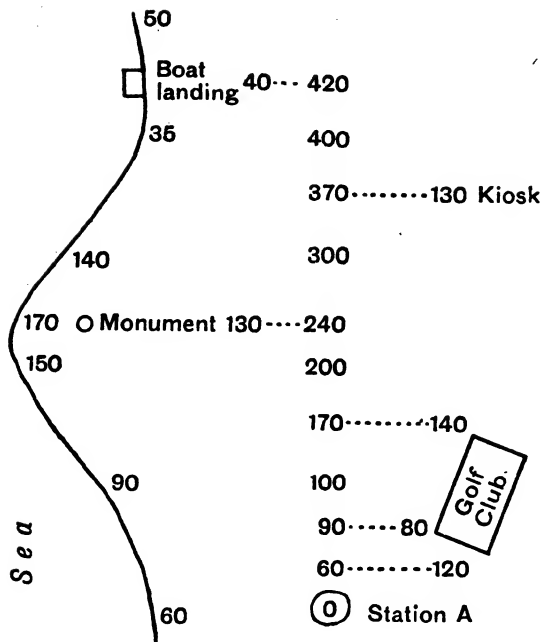

FIG. 56. MORE DETAILED SURVEYING, FIELD BOOK RECORD, WITH ROUGH SKETCH OF SHORE LINE
**III. More elaborate surveying—Working on both sides of the survey line.**—The methods are the same. Longer distances can be undertaken gradually. Offsets should be exactly at right angles to survey lines and should be tested by the 3, 4, 5 triangle method, Fig. 56.